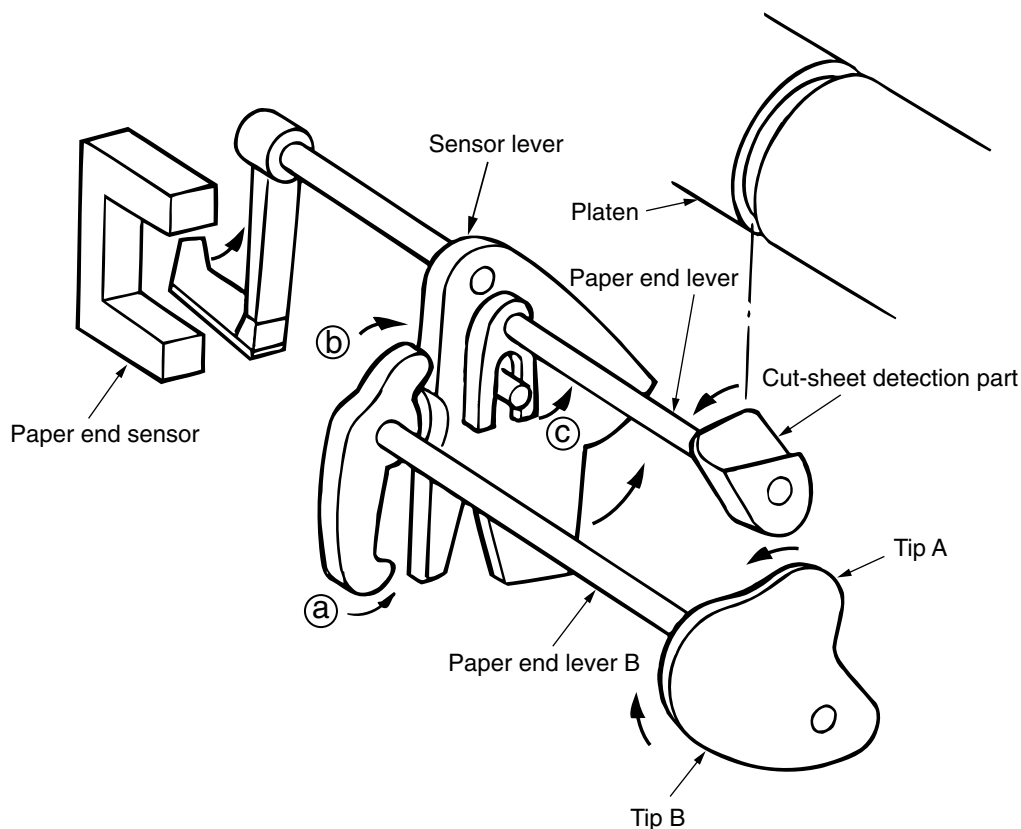

Figure 2-13
2.2.6 Paper end detection mechanism (See Figure 2-13.)